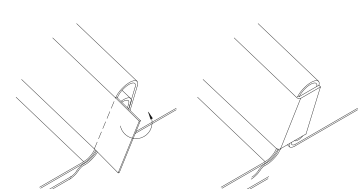

FIGURE 2.
4. Align the second panel female edge with the starter panel male edge. See Figure 2. Panels must be flush to one another. Remember, panels should extend over eave trim by 1".
6. Seal end thoroughly as in Figure 1, or leave tab when notching and fold over end for a more finished look as in Figure 2.